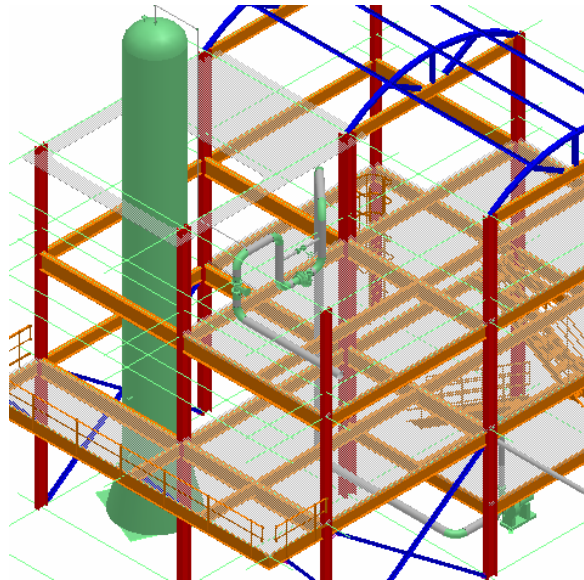

Figure 1: Isometric View
8. Change the view to **Isometric** view and magnify the area highlighted in Figure 1 by clicking the **Zoom Area** button on the **Common** toolbar. Choose an area that just includes the vertical tank and the pump.